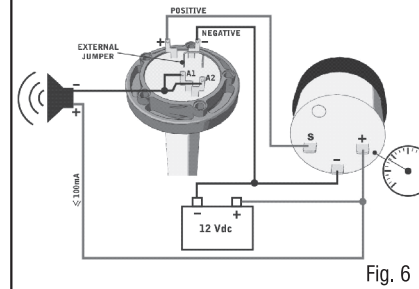

Fig. 6
- 3) The resistive type sensors **240-33 ohm** (PCHG2AXXX e PHWG2AXXX model) may become resistive type sensors **VDO 3-180 ohm** simply by cutting the JUMPER showed in Fig. 6.
Never connect directly a resistive type of sensor (Fig. 6) to the battery cables!
Resistive sensors (PCHG2AXXX and PHWG2AXXX models) are equipped with a jumper (see "External Jumper" in Fig. 6) useful for the choice of working with **STD 240-33 ohm** gauges (intact jumper) or with **VDO 3-180 ohm** gauges (cut jumper). It is also available a model compatible with **3-90 ohm** gauges (model PCHK2AXXX e PHWK2AXXX).